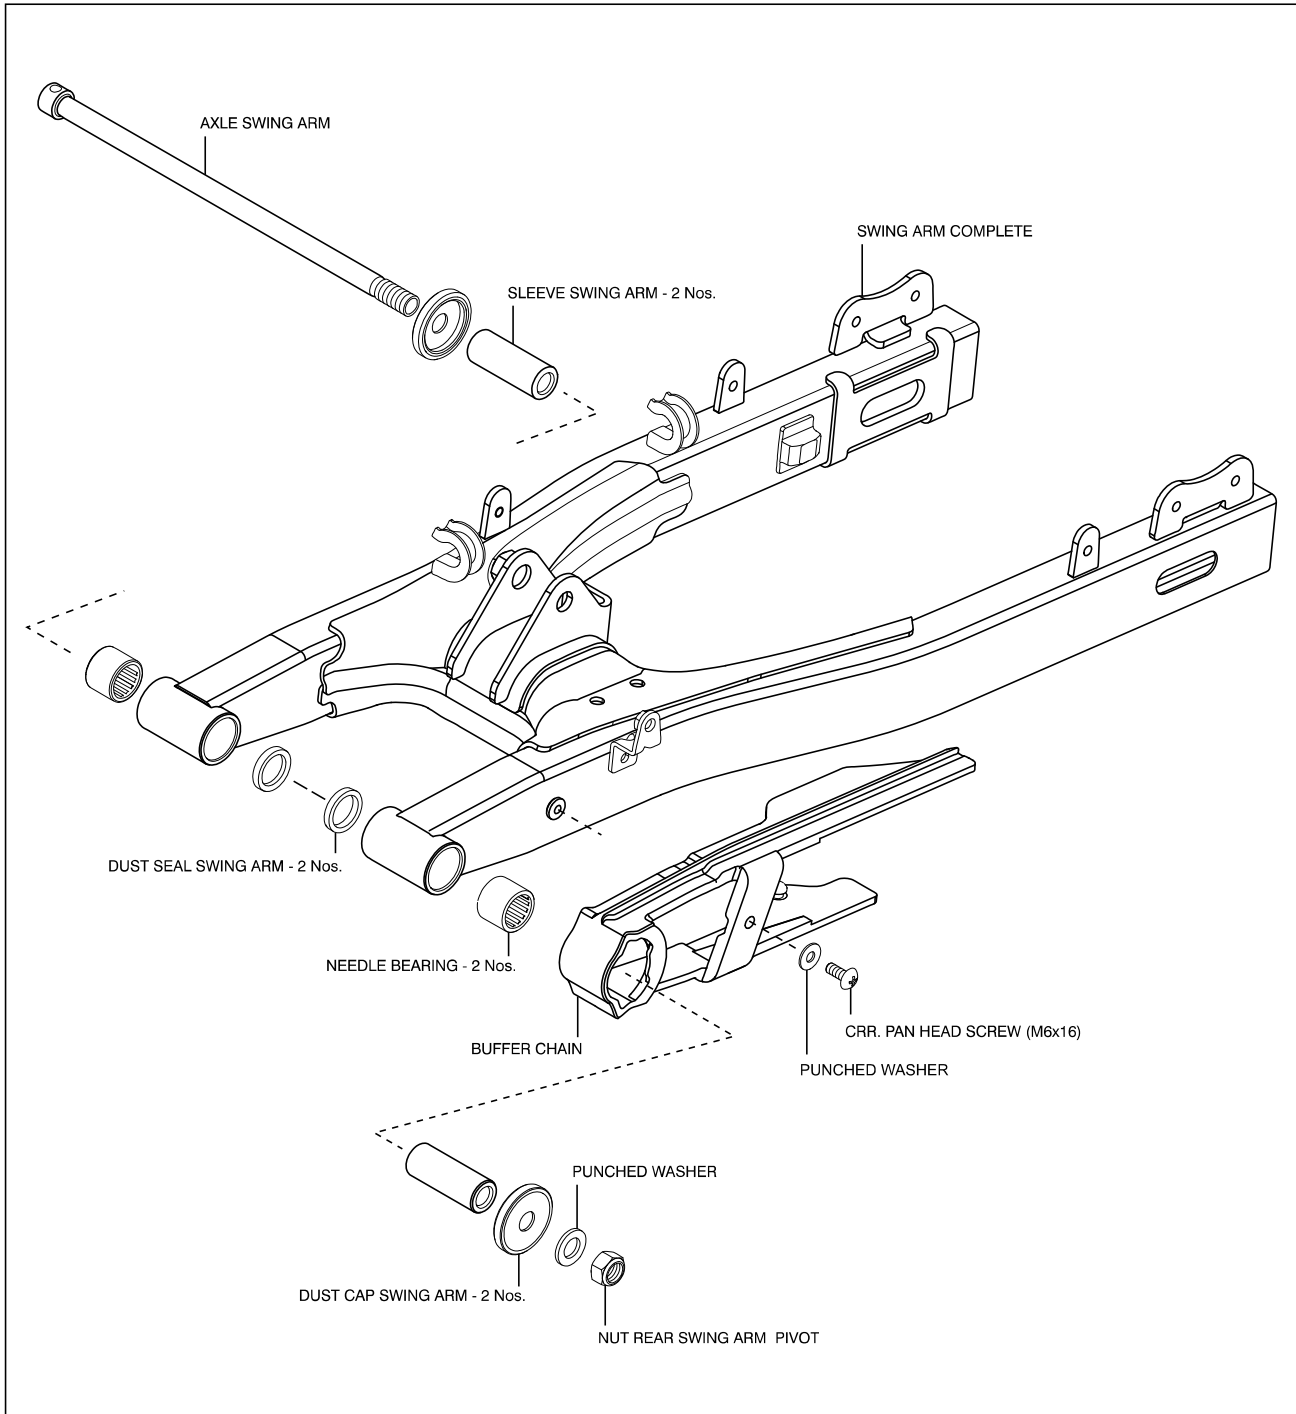

Fig. 6.155
- Reassemble and remount the swing arm complete in the reverse order of removal. Refer exploded view for assembly details. (Fig. 6.155)